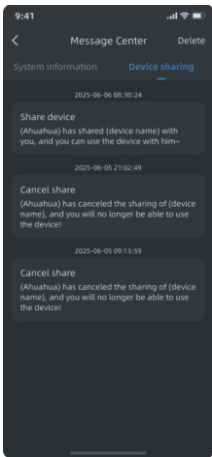

Figure 3
- 3) Figure 3: Display device sharing messages.